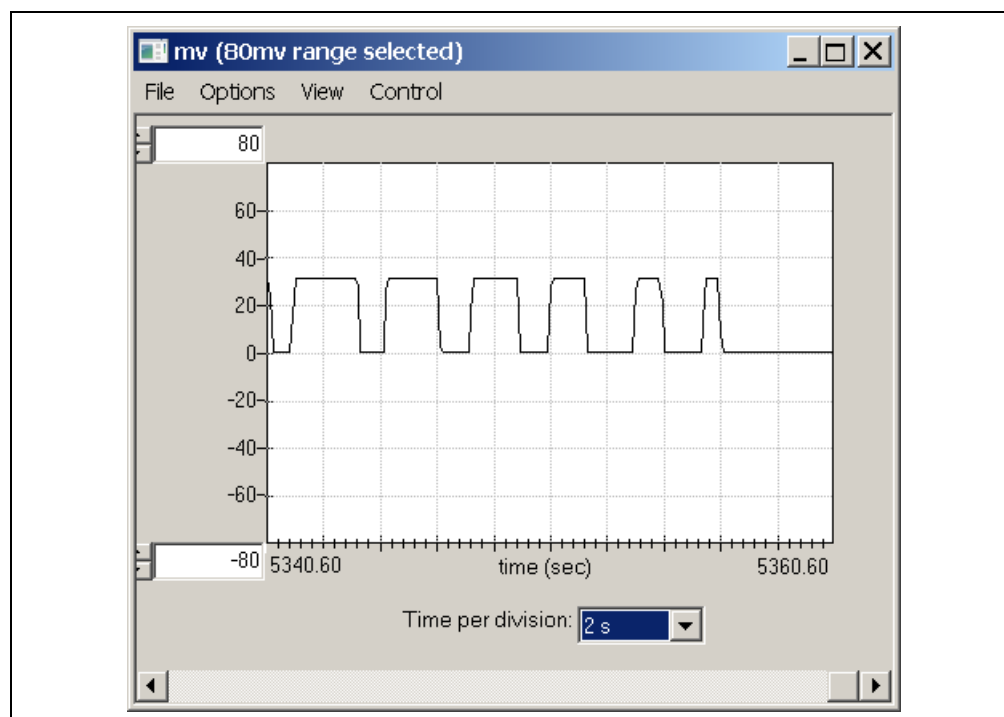

FIGURE 5-5: Momentary Pulse Duration Plot.
7. Continue turning Rotary Switch 3, one position at a time, and pressing Switch 4. Observe the plot (Figure 5-5).